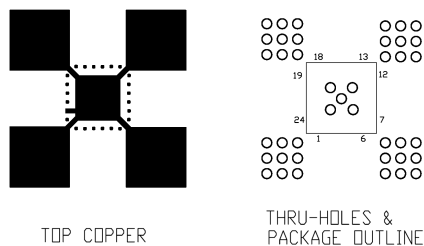

Figure 4. Printed Circuit Board Layout for Maximum Thermal Performance
- ESD testing is performed in accordance with the Human Body Model (HBM) ( $C_{ZAP} = 100$  pF,  $R_{ZAP} = 1500$   $\Omega$ ), the Machine Model (MM) ( $C_{ZAP} = 200$  pF,  $R_{ZAP} = 0$   $\Omega$ ), and the Charge Device Model (CDM), Robotic ( $C_{ZAP} = 4.0$  pF).
- With PCB Layout comparable top copper and vias as shown in Figure 4, and bottom thermal ground plane of > 9 cm2.
- With specified PCB Layout shown in Figure 4 under forced convection airflow condition.